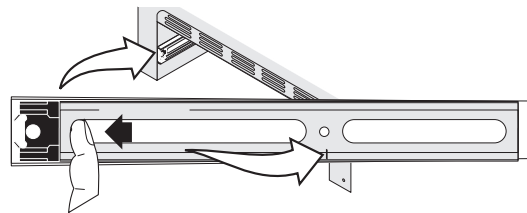

Figure 49: Warmer drawer glides
1. Pull the bearing glides to the front of the outer compartment glide channels until they snap into place (Figure 49).